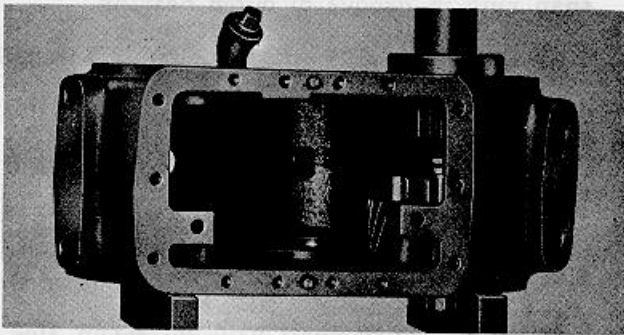

Fig. 25.
2. Start input shaft into case. Mount sliding gear, spacer and drive gear (with bushing) on shaft (Fig. 25).